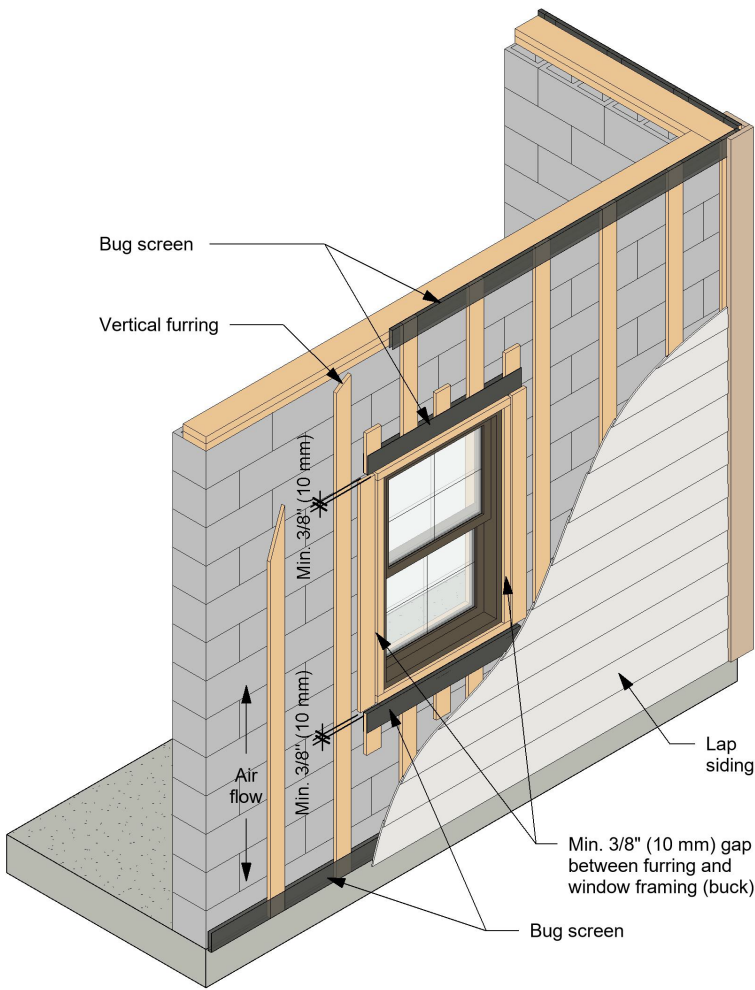

Figure 5
- Openings at the top and the bottom of the wall should be open to the outside air and protected with insect screen. (Figures 5 & 7)